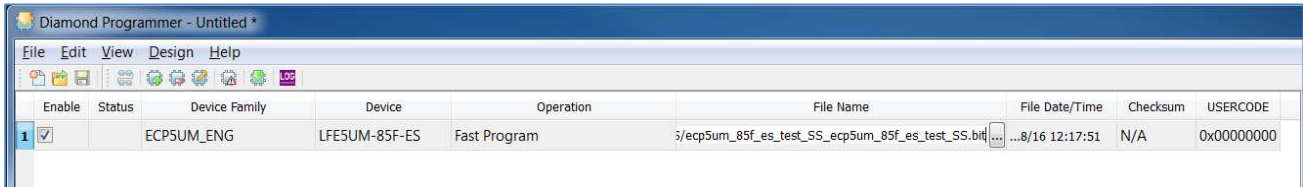

Figure 5.7. Bit File Selection
- The selected file is shown under **File Name** in the Diamond Programmer main interface as shown in Figure 5.7.